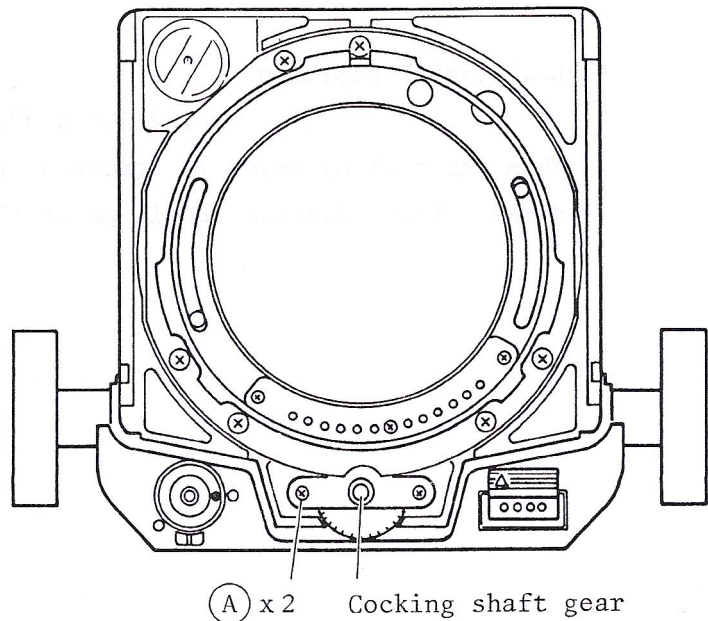

Fig. 76
- b. Remove two screws (A) of cocking shaft gear plate (Fig. 76)